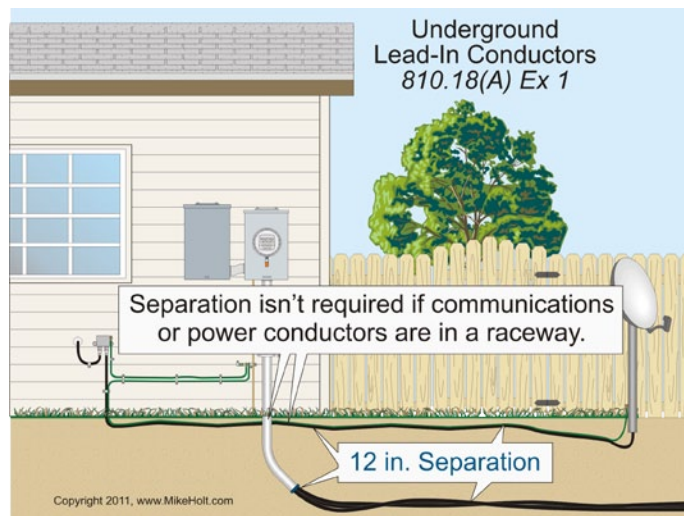

Figure 810-8
(A) Outside of Buildings. Lead-in conductors attached to buildings must be installed so that they can't swing closer than 2 ft to the conductors of circuits of 250V or less, or closer than 10 ft to the conductors of circuits of over 250V. Lead-in conductors must be kept at least 6 ft from the lightning protection system and underground antenna lead-in conductors must maintain a separation not less than 12 in. from electric power conductors. **Figure 810-8**